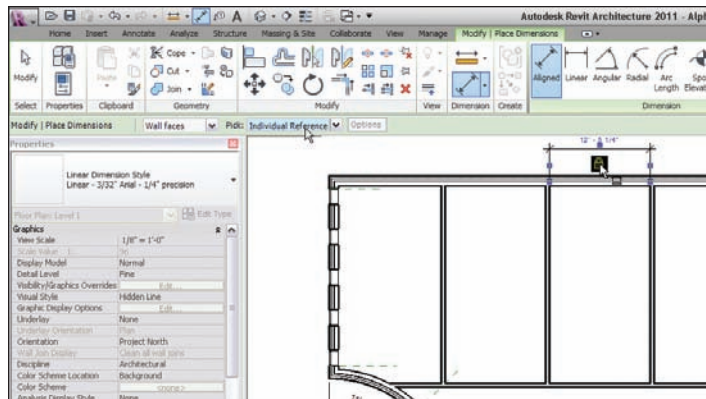

FIGURE 5.34 You can add a dimension and lock the distance between two items.
2. On the Options bar, change the alignment to Wall Faces, as shown in Figure 5.34.
3. Pick the inside faces of the two middle partitions, as shown in the upper left of Figure 5.34.